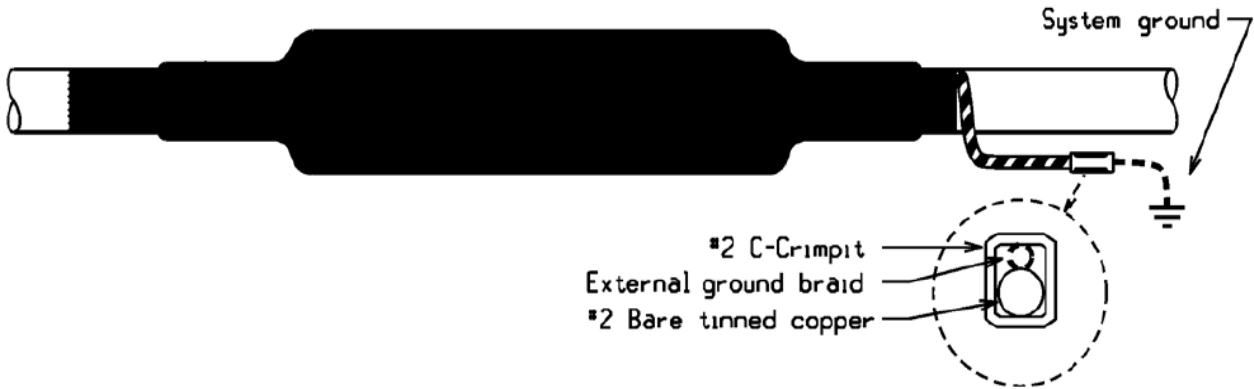

Figure 18
8. Install cable jacket. Connect braid to the system ground. If braid is not long enough to reach ground, connect #2 tinned copper stranded conductor (Std. Item W13F) with a "C" crimp connector (Std. Item S14_) between braid and system ground. Refer to Figure 18.